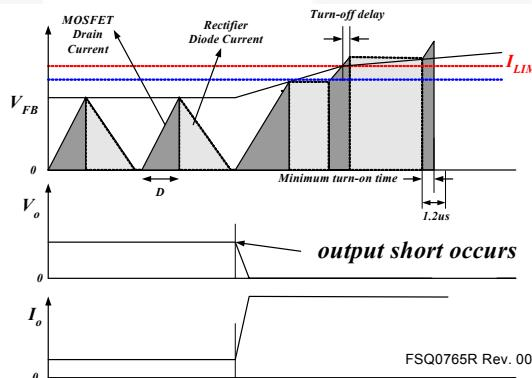

Figure 31. Output Short Waveforms
4.3 Output-Short Protection (OSP): If the output is shorted, steep current with extremely high dI/dt can flow through the SenseFET during the LEB time. Such a steep current brings high voltage stress on drain of SenseFET when turned off. To protect the device from such an abnormal condition, OSP is included in the FSQ-series. It is comprised of detecting V_{FB} and SenseFET turn-on time. When the V_{FB} is higher than 2V and the SenseFET turn-on time is lower than 1.2 μ s, the FPS recognizes this condition as an abnormal error and shuts down PWM switching until V_{CC} reaches V_{start} again. An abnormal condition output short is shown in Figure 31.